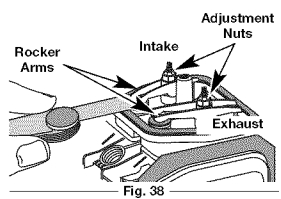

Fig. 38
7. Slide the feeler gauge between the rocker arm and the valve return spring. Measure the clearance between the valve stem and rocker arm (Fig. 38). Measure both the intake and exhaust valves.
The recommended clearance for both intake and exhaust is .003 – .006 in. (.076 – 0.152 mm). Use a standard automotive .005 in. (0.127 mm) feeler gauge. The feeler gauge should slide between the rocker arm and valve stem with a slight amount of resistance, without binding. See Figures 38 and 39.